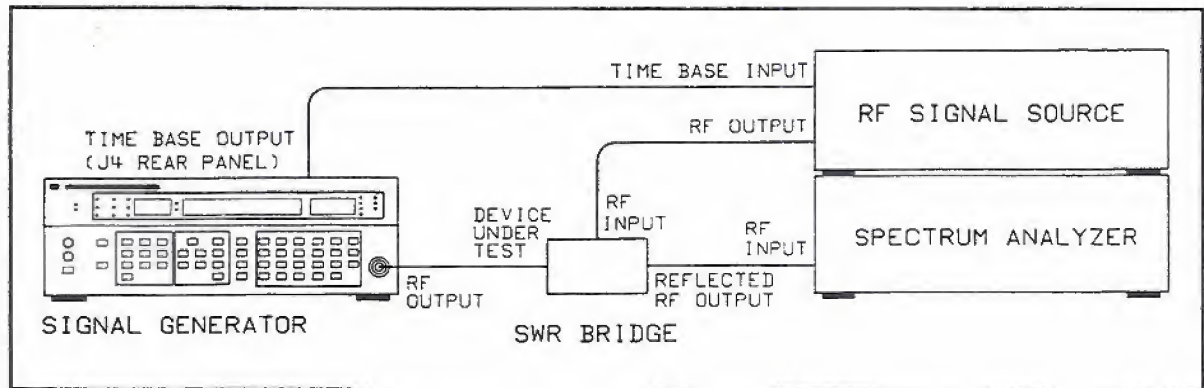

Figure 4-18. SWR Performance Test Setup (Out of Band)
4. Connect the equipment as shown in Figure 4-18.
11. Connect the equipment as shown in Figure 4-18.